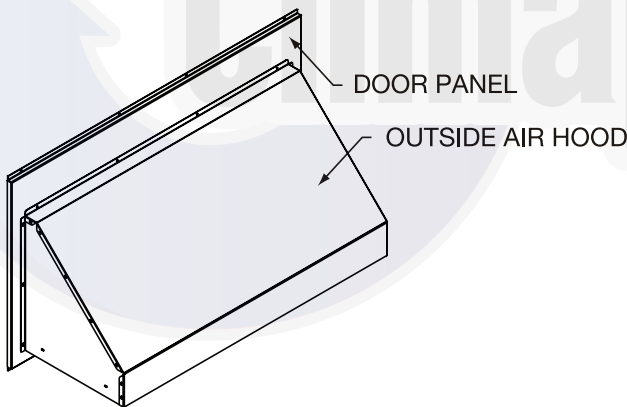

Fig. 28 — Assemble the Outside Air Hood
2. To assemble outdoor air hood (shown in Fig. 28):
4. After the slides are in the desired position, secure the outdoor air hood to the door panel using the provided no. 10-16 x $\frac{1}{2}$ screws as shown in Fig. 28.